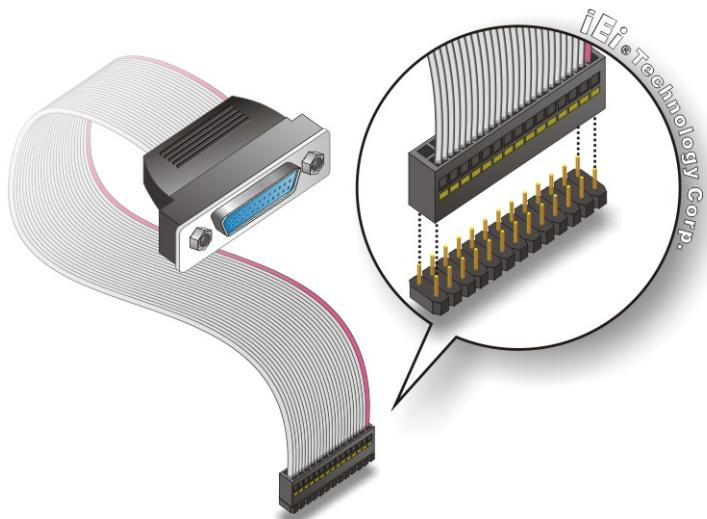

Figure 4-15: LPT Cable Connection
the PICOE-PV-D4251/N4551/D5251 LPT box-header connector. See Figure 4-15.
Step 3: Insert the cable connectors Once the cable connector is properly aligned with the 26-pin box-header connector on the PICOE-PV-D4251/N4551/D5251, connect the cable connector to the on-board connector. See **Figure 4-15**.